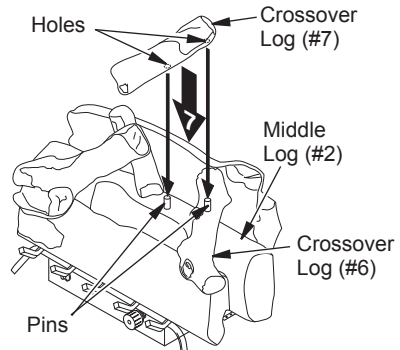

Figure 26 - Installing Crossover Log #7 (Model CCL3930PTB/NTB Only)
7. For CCL3930PTB/NTB only: Locate holes on the bottom of crossover log (#7). Slide onto the pins located in crossover log (#6) and middle log (#2). See Figure 26.